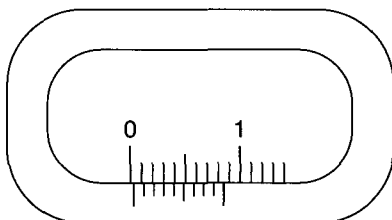

Figure 2-5 Vernier caliper with its jaws closed. Does it have a zero error?
3. The caliper in Figure 2-5 has its jaws closed. If the caliper has a zero error, what is its value? Is it positive or negative? Error = _____ cm